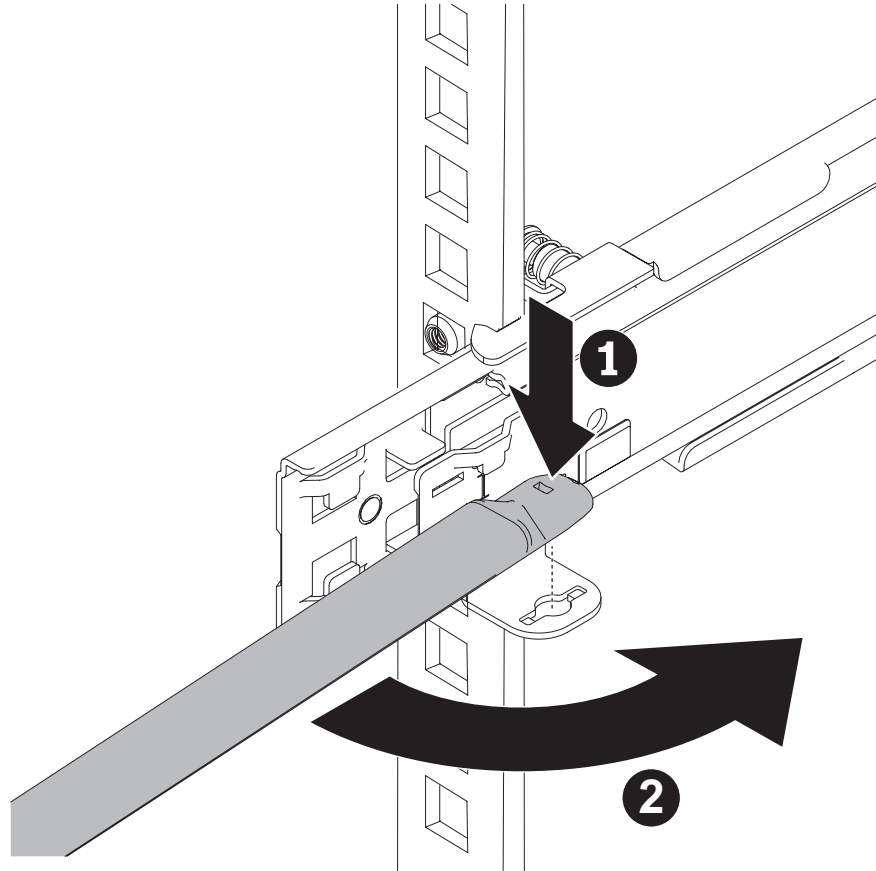

Figure 33. Installing the cable-management support bar
3. Install the cable management support bar on the left-rear side of the node, as shown in Figure 33 on page 43.